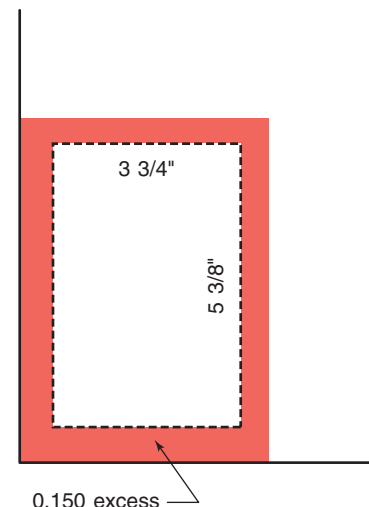

Figure 2-14 Problem 21.
- 21. A print calls for one rectangular part made from sheet steel. It is to be machined to $3\frac{3}{4}$ by $5\frac{3}{8}$ in. when finished. (See Fig. 2-14.) Operation 30 requests 0.150 in. extra machining metal added to every edge of the rough sawed material. The saw kerf consumes 0.060 in. for each cut. How much material will be consumed from the sheet for the one rectangle? (LOs 2-1 and 2-2)